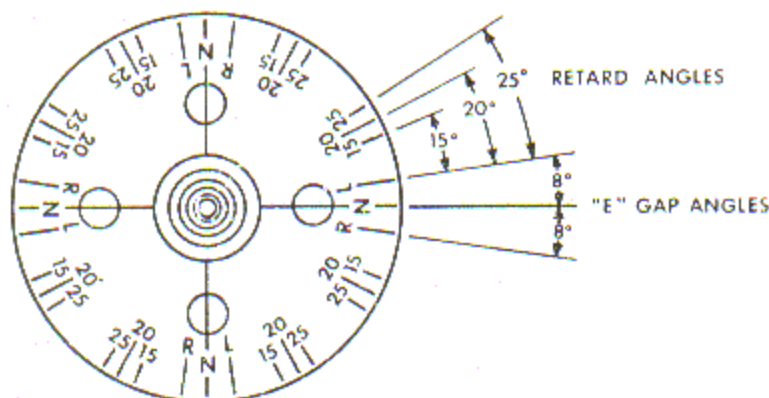

Figure 5-4. Timing Marks on Rotating Magnet
(2) Back the engine up a few degrees and again bump forward toward number one cylinder firing position while observing timing lights. Both lights should go out to indicate opening of the main breakers when the timing pointer is indicating within the width of the "L" or "R" mark. If breaker timing is incorrect, loosen breaker screws and correct. Retorque breaker screws to 20 to 25 in. lbs.
(4) Back the engine up a few degrees and again bump forward toward number one cylinder firing position until pointer is aligned with 15° retard timing mark. See figure 5-4. Retard breaker should just open at this point.
(5) If retard timing is not correct, loosen cam securing screw and turn the retard breaker cam as required to make retard breaker open per paragraph c(4). Retorque cam screw to 16 to 20 in. lbs.
(6) Observe that tachometer breaker is opened by the cam lobe. No synchronization of this breaker is required.
(7) Check action of impulse coupling (D-2000 series only). With the ignition switch off observe breaker cam end of rotor while manually cranking engine through a firing sequence. Rotor should alternately stop and then (with an audible snap) be rotated rapidly through a retard firing position.